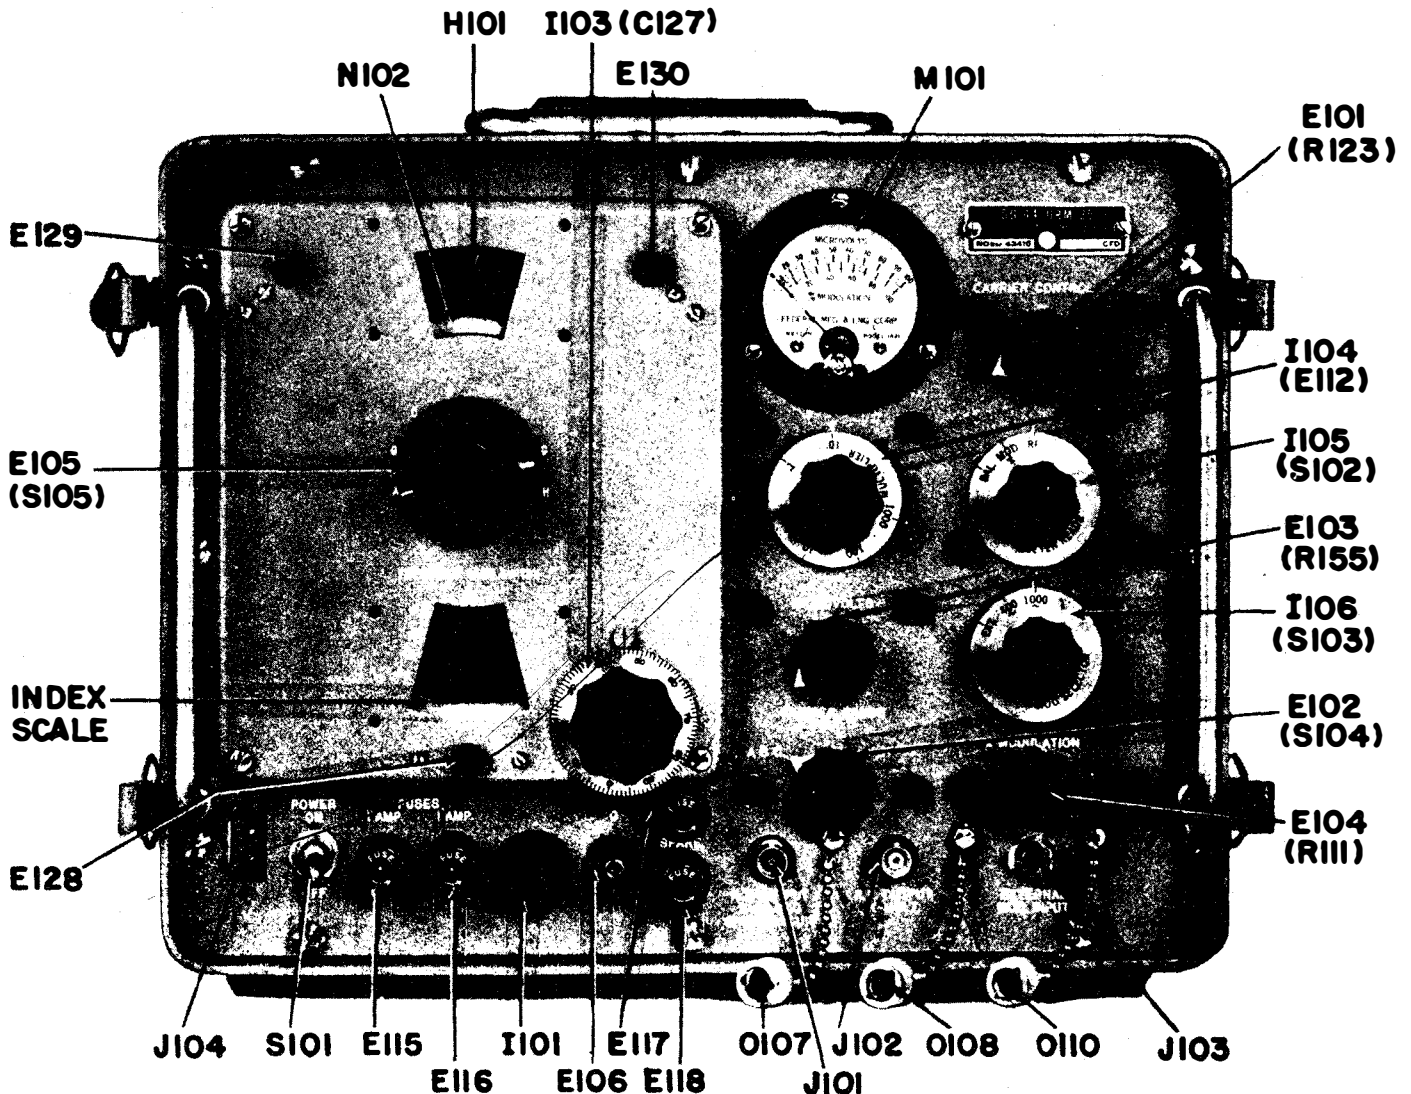

Figure 4-1. RF Signal Generator SG-44/URM-25, Front Panel Diagram
c. The following preliminary settings and checks are required prior to placing the equipment in operation (See figure 4-1).
- (1) Turn POWER switch (S-101) to OFF position
- (2) Turn CARRIER CONTROL E-101 to the fully counterclockwise position.
- (3) Plug power cable W-101 into power receptacle J-104
- (4) Insert other end of power cable W-101 into 115 volt AC source.
b. The following preliminary checks and adjustments may be required in zero setting the meter (M-101). All symbols designations in this paragraph refer to Section 4, figure 4-1.
(1) Turn CARRIER CONTROL E-101 and % MODULATION control E-104 to the fully counterclockwise positions.
(2) Turn the signal generator on by placing POWER switch S-101 to the ON position. (Allow a 15 minute warm-up period).
(3) Set METER READS dial I-105 first in the RF position and then in % MOD and BAL positions. Meter M-101 should read zero in all positions.
(4) If the meter does not read zero, follow the meter calibration procedure outlined in Section 6, par. 10.
All reference to symbol designations in this section apply to the front panel diagram Figure 4-1 unless otherwise specified. Primary reference is made to the symbol designation of the front panel knob (i.e. E-102) applicable to the specific circuit element (i.e. R-123). The association between the knob and circuit part is shown on Figure 4-1 by indicating the corresponding circuit element designation following the knob symbol (i.e. E-102 (R-123)).
TABLE 4-1. OPERATIONAL SUMMARY OF FRONT PANEL CONTROLS (See figure 4-1)